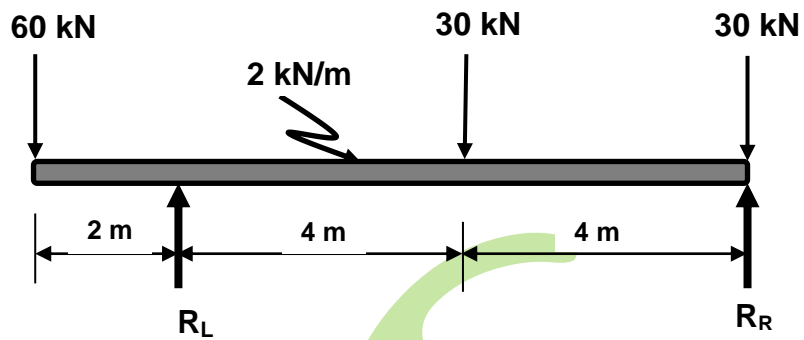

FIGURE 1
- 2.2 The beam shown in FIGURE 1, DIAGRAM SHEET 1 (attached), is held at equilibrium by the reactions  $R_L$  and  $R_R$  and supports three point loads as well as one uniformly distributed load. The total mass of the beam is 2 000 kg.